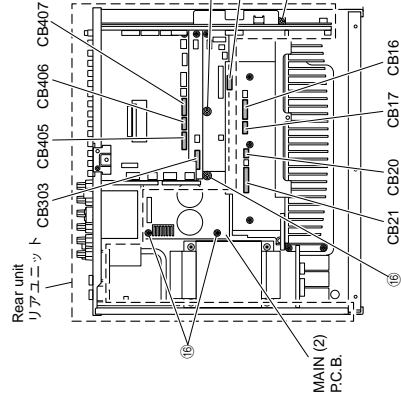

Fig. 8
- Remove 4 screws (⑯) and screw (⑰). (Fig. 8)
- Remove screw (⑱). (R, K, A, L models) (Fig. 8)
- Remove CB16-18, CB20, CB21, CB303, CB405, CB406 and CB407. (Fig. 8)
- Remove the rear unit and MAIN (2) P.C.B.. (Fig. 8)
- ⑯のネジ4本、⑰のネジ1本を外します。(Fig. 8)
- CB16-18, CB20, CB21, CB303, CB405-407を外します。(Fig. 8)